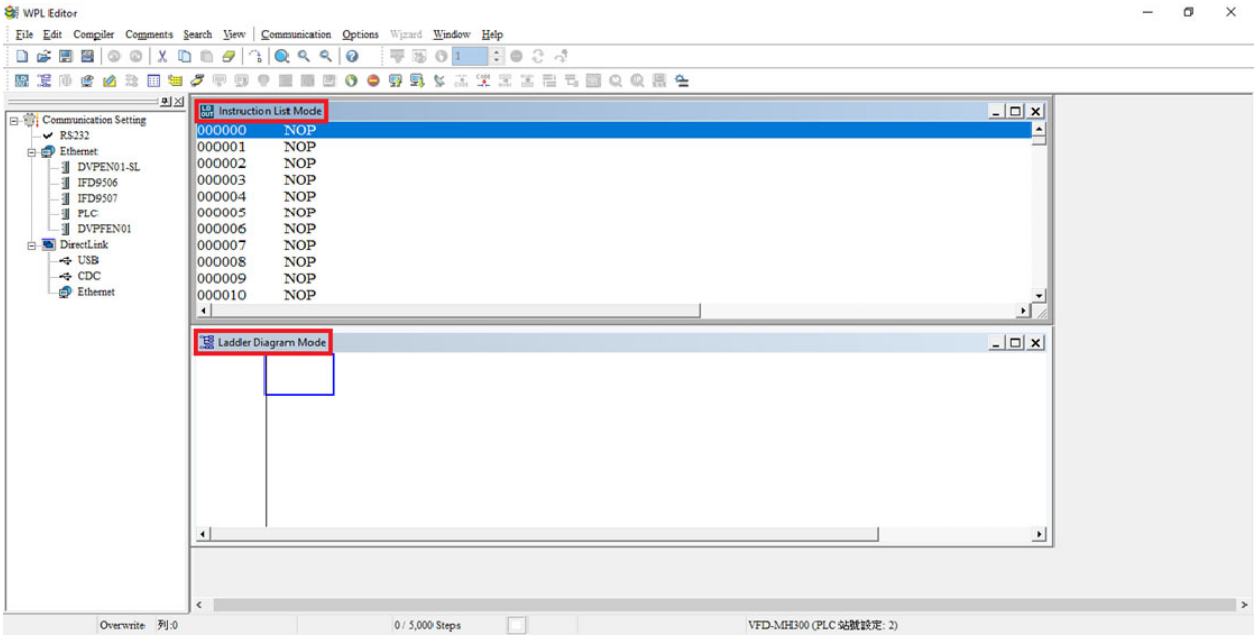

Figure 15-8
Step 5: Press Confirm after completing settings and begin program editing. There are two program editing methods; you can choose whether to perform editing in the command mode or the ladder diagram mode (see figure 15-8 below).